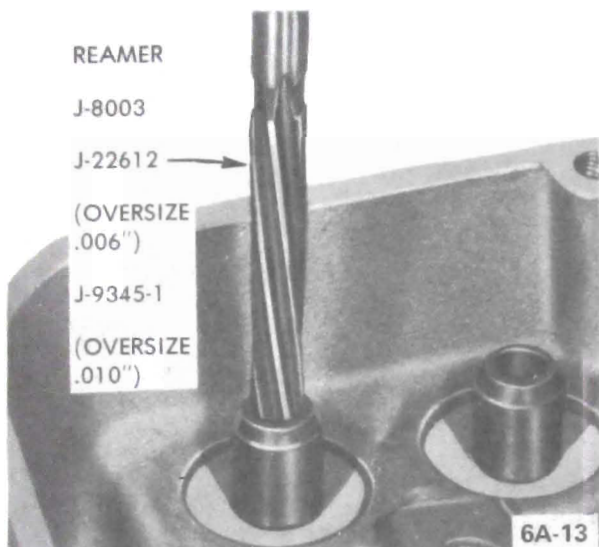

Figure 6A-13 - Reaming Valve Guide
7. If valve stem has too much clearance in its guide, the guide should be reamed to .006" oversize using J-22612 and then to .010" oversize using Reamer J-9345-1. See Figure 6A-13.
.006" oversize valves are occasionally used in production. If clearance in the guide exceeds .006" the guide should be reamed to .010" oversize using J-9345-1. Oversize valves are identified by the oversize marking stamped on the valve head. See Figure 6A-14.